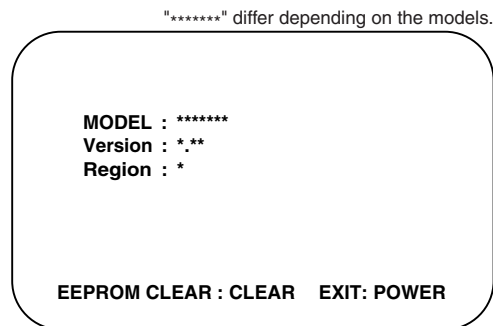

Fig. 9
9. Press [DVD], [1], [2], [3], [4], and [DISPLAY] buttons on the remote control unit in that order. Fig. 9 appears on the screen.